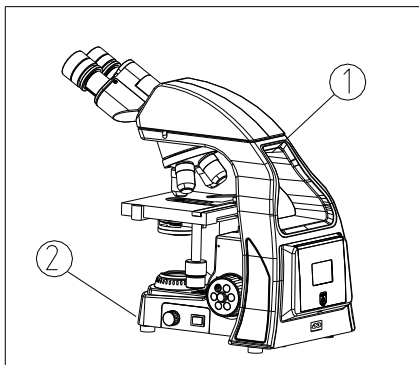

Fig.1
3. When moving the microscope, keep holding the rear cover hand clasp ① and the front end of microscope body ② with each hand. Handle with care. (See Fig. 1)